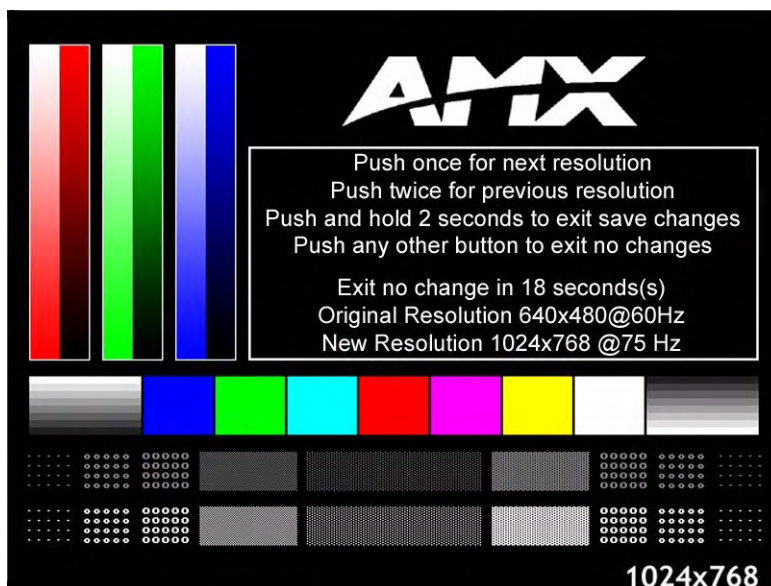

FIG. 30 Resolution Setup page
1. Press the RESOLUTION pushbutton to open the *Resolution Setup* page (FIG. 30).